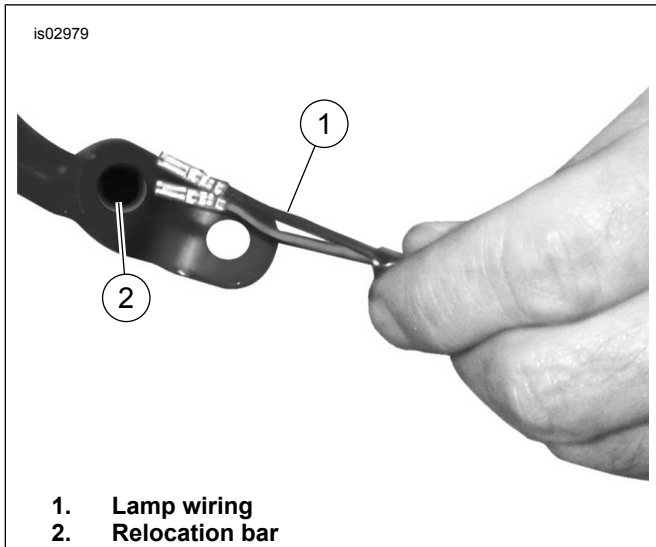

Figure 7. Route Signal Wiring
2. See Figure 7. Obtain signal lamp and route lamp wiring (1) through relocation bar (2) as shown.